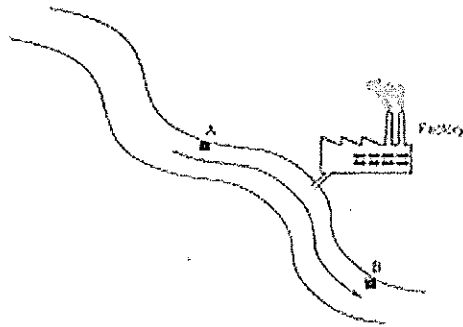

Figure Q8
- b) Figure Q8 is shown a diagram of a river running past a chemical factory. The same types of sensors, connected to a computer in the factory are placed at *A* and *B* to monitor pollution of the river by the factory. Name 3 sensors and its specification that would need to be placed at both *A* and *B*. [10 marks]